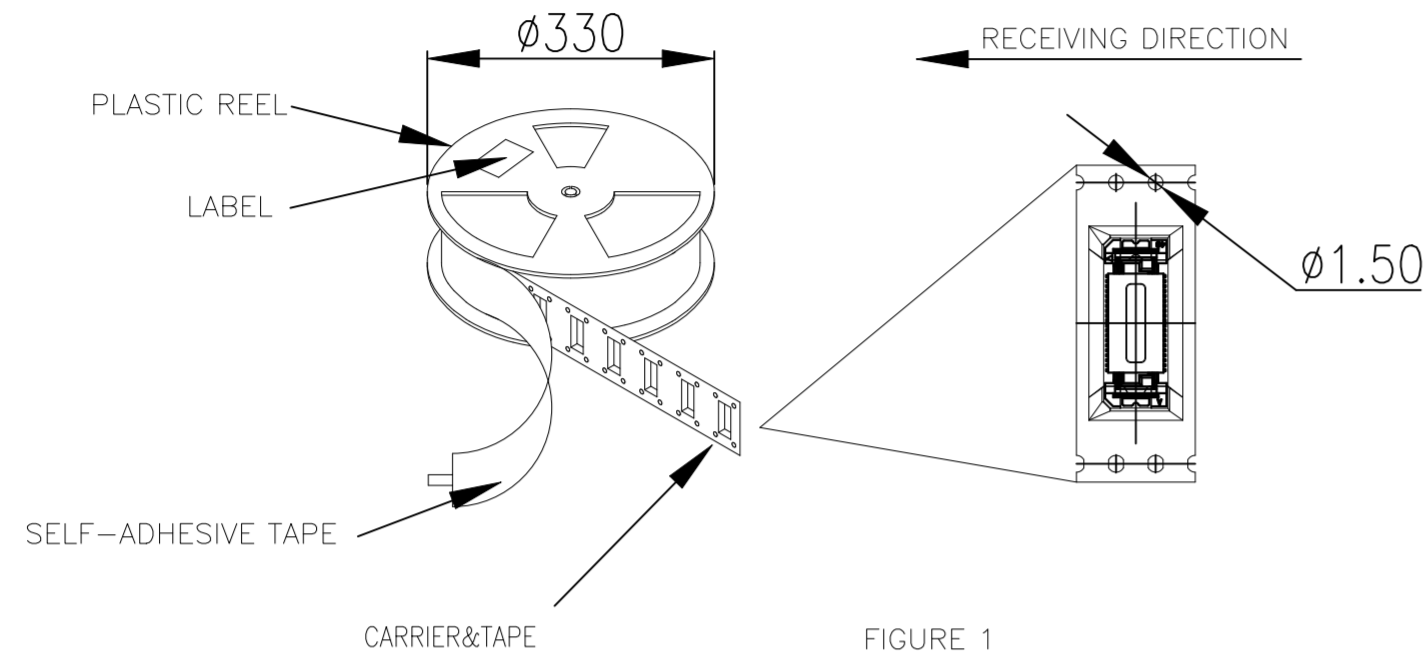

FIGURE 1
1. 22 SPACES ARE RESERVED AT THE BEGINNING OF THE PACKAGING, AND THE CARRIER TAPE AND SELF-ADHESIVE FILM ARE CUT FLAT WITH THE CARRIER TAPE AND TAPED TOGETHER ADHERE TIGHTLY TO THE AXIS OF THE REEL, ALIGN THE PRODUCT DIRECTION, AND PLACE THEM IN SEQUENCE, AS SHOWN IN FIGURE 1.